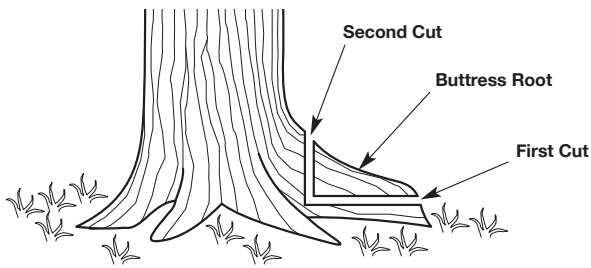

Fig. 10
1. Make a horizontal cut into the buttress root (Fig. 10). To prevent the guide bar from being pinched by the weight of the wood, always make this cut first.
2. Make a vertical cut into the buttress root (Fig. 10).